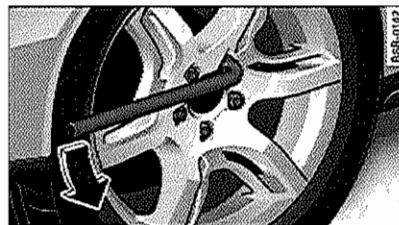

Fig. 230 Changing a wheel: loosening the wheel bolts
- Take tight hold of the **end** of the wrench handle and turn the wheel bolts **counter-clockwise** about *one single* turn in the direction of arrow ⇒ fig. 230.